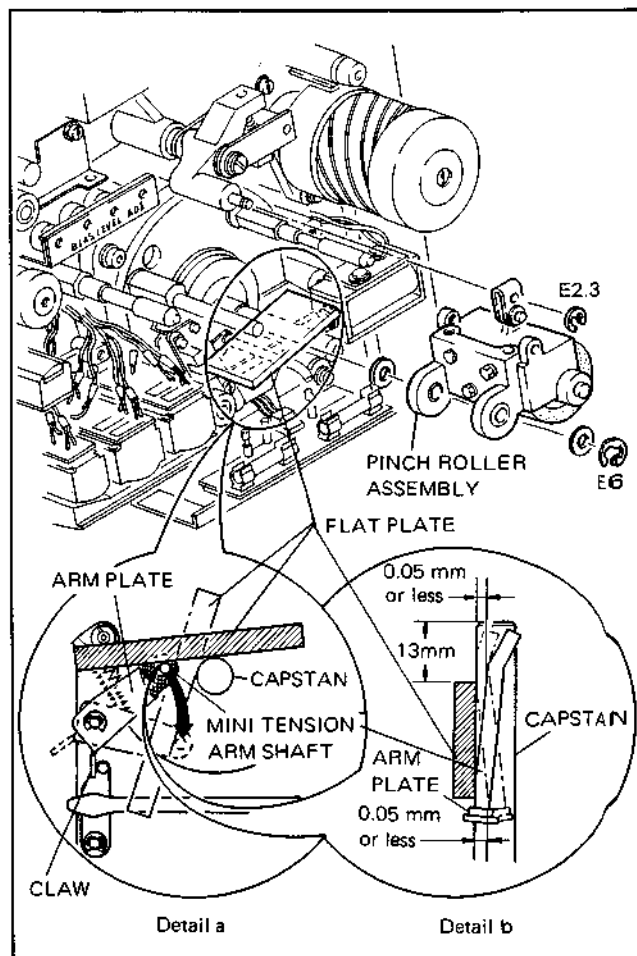

Fig. 3-46. Parallelism Confirmation for the Mini Tension Arm Shaft
3. Remove the two E rings shown in Fig. 3-46, and remove the pinch roller assembly.
4. Place the flat plate into the position shown by the hatching in detail a of Fig. 3-46, bring the flat plate into close contact with the capstan, and confirm that the clearance between the flat plate and the shaft of the tension arm is 0.05 mm or less as shown in detail b.
7. Thread a tape, set the machine in REC mode, and confirm that there is a clearance of 0.3 to 0.8 mm between the mini tension arm and the tape. If necessary, adjust by bending the claw in detail a of Fig. 3-46.